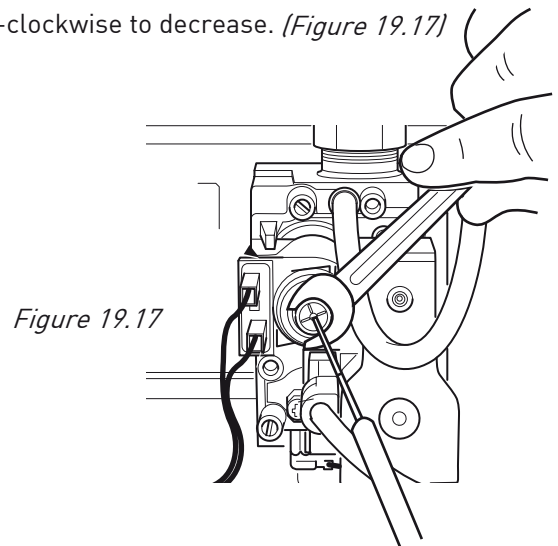

Figure 19.17
- Adjust inner screw to give correct min burner pressure whilst holding 10 mm nut on maximum adjuster. Clockwise to increase, Anti-clockwise to decrease. (Figure 19.17)